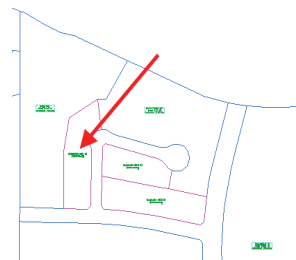

Figure 2–42
9. When you are prompted for the *starting point on frontage*, select the south end of the corner cut. Press the <Ctrl> key, right-click, and select **endpoint**. Then select the corner cut, Pt1, shown in Figure 2–43.